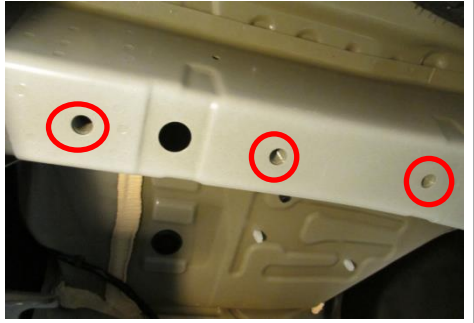

Figure 3
2. Hitch installation – raise the hitch into position and loosely install M14 bolt ① and conical washer ② into weldnut, see Figure 3.
2. Hitch installation – raise the hitch into position and loosely install M14 bolt (1) and conical washer (2) into weldnut, see Figure 3.